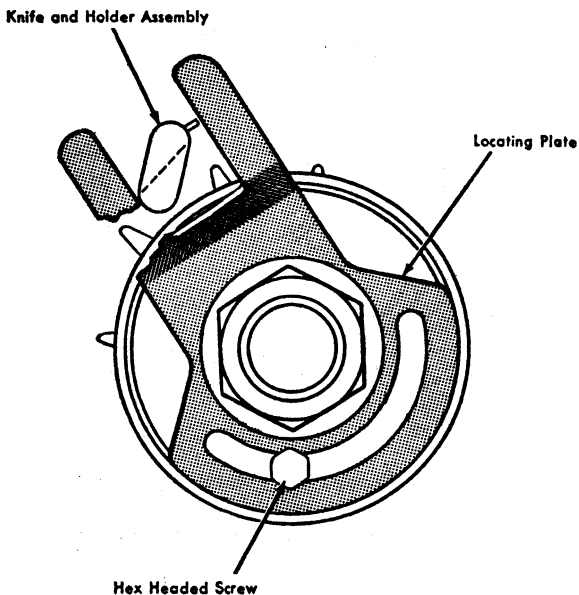

Figure 6. R. H. End View of Pin Adjustment
4. THE PINS are adjusted in a radial position by loosening the hex headed screws in the slotted opening of the locating plates and rotating the plate until the pins reach their maximum extension at the lower edge of the knife and holder assembly when the platen is in its latched down position (Figure 6).